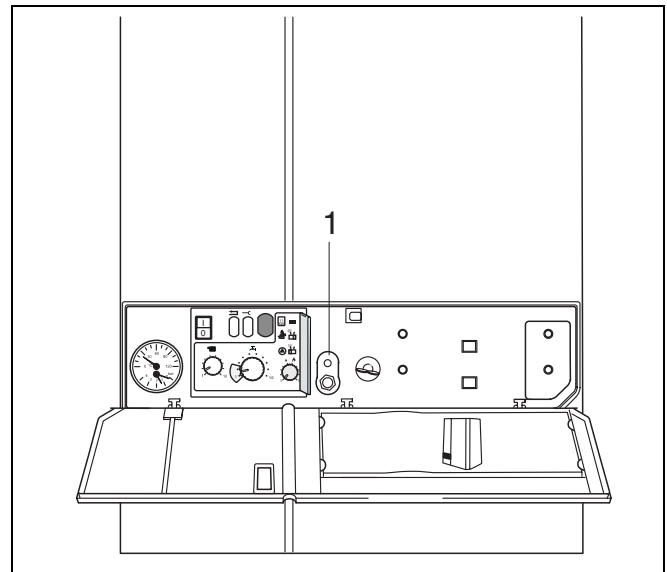

Fig. 5 Service tool connection
- Open the cover at the front of the boiler unit and insert the twin plug connector of the service tool into the sockets provided (fig. 5, item 1).